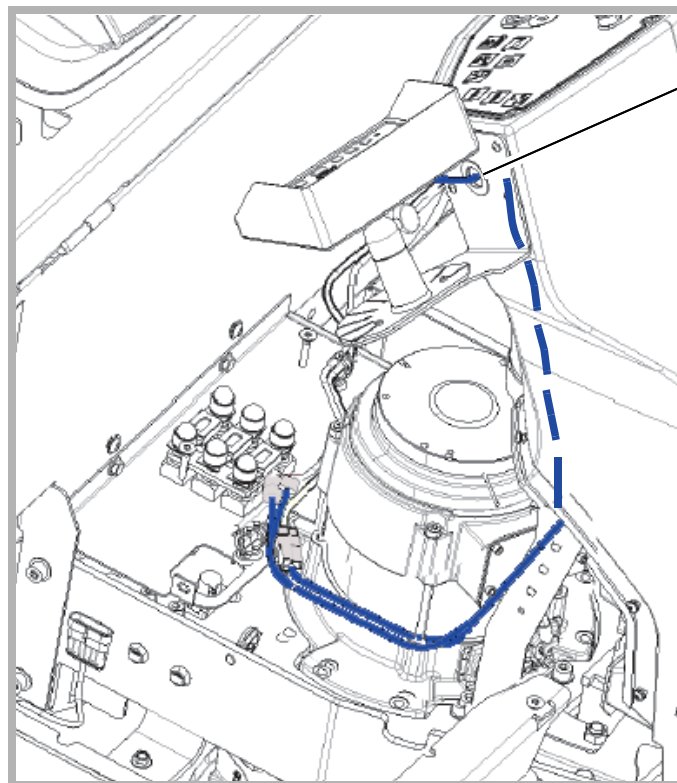

Fig. 3
1. Lead the monitor cable through the cable sleeve (Fig. 3/1).